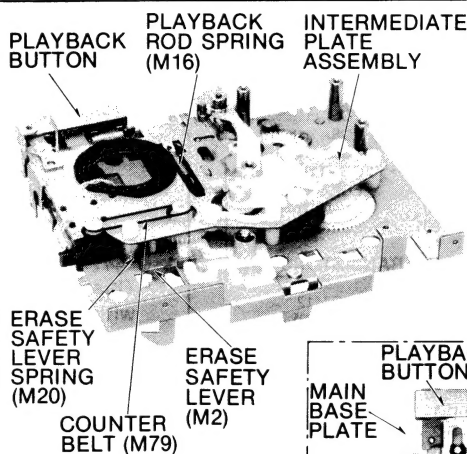

Fig. 4
- iii) Remove the erase safety lever spring (M20) from the erase safety lever (M2). (Refer to Fig. 4.)
- v) Remove five screws (B), the playback rod spring (M16), and counter belt (M79). The intermediate plate assembly can be removed from the mechanism unit.
- vi) When assembling the intermediate plate assembly, assemble the cue lever (M8) parallel to the edge of the main base plate. Before securing it with screws, insert the erase safety lever spring. (Refer to Fig. 4.)